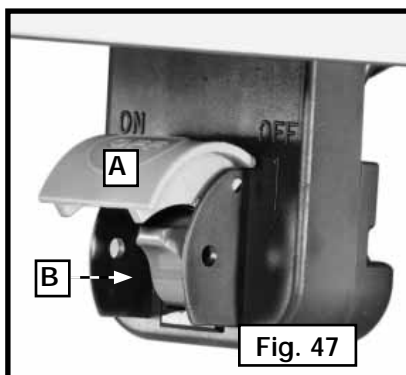

Fig. 47
1. The **ON/OFF** switch is located underneath the switch shield (A) Fig. 47. To turn the saw “ON”, move the switch lever (B) to the up position.